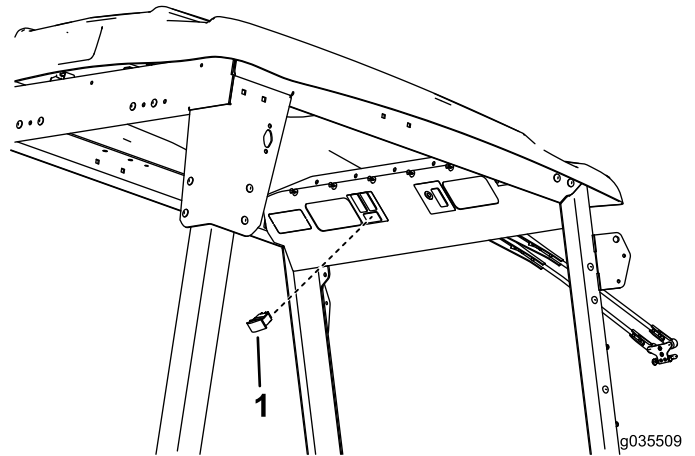

Figure 12
2. Locate the plug in the existing wire harness and connect the switch to the plug (Figure 12).